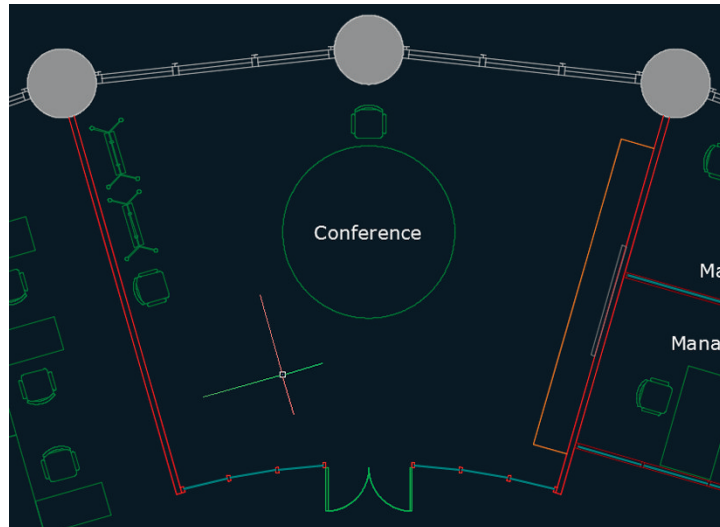

FIGURE 4.13 Reorienting the UCS to an object
10. Pan over to the Conference room. Type **UCS**, and press Enter. Select the Object option by clicking Object on the command prompt. Select the inner left wall line and watch as the crosshair cursor changes to parallel the angle of the wall (see Figure 4.13).